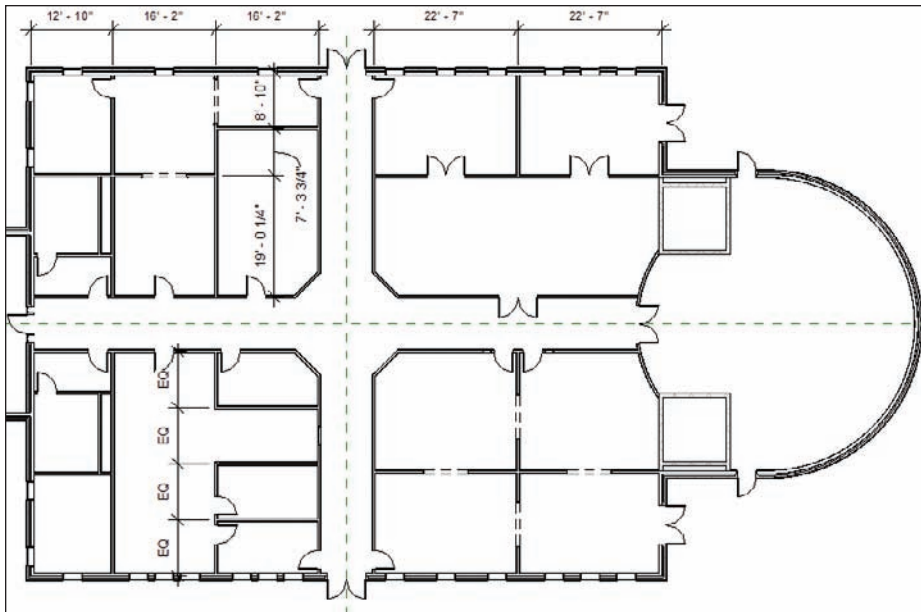

FIGURE 4.52 The first floor layout for the east wing
2. Start adding walls, doors, openings, and windows to resemble Figure 4.52. These doors and windows can be any type you like. If your model varies slightly from the example in the book, don't be concerned.